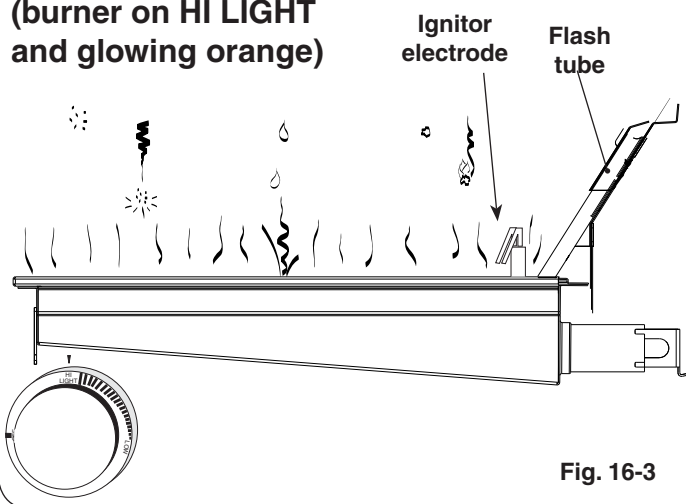

Fig. 16-3
- **DO NOT** place food on the cooking grid until the IR burner glows orange (Fig. 16-3). Drippings are heated and evaporate instead of sticking to and impairing burner function.